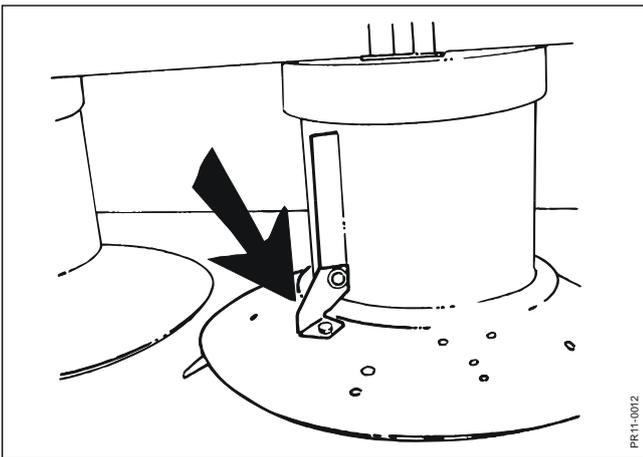

Fig. 5-6
**Fig. 5-6:** Check that carriers on the drums are in place and intact. The drums can be deformed by stones and the like. If this results in unbalance, they must be replaced.